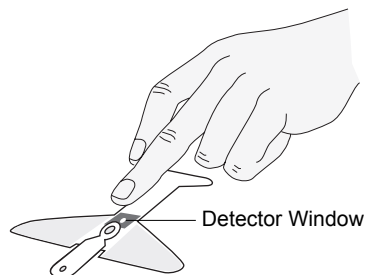

Figure 6
3. Orient the sensor so that the digit can be attached to the detector side of the sensor first (see Figure 6).